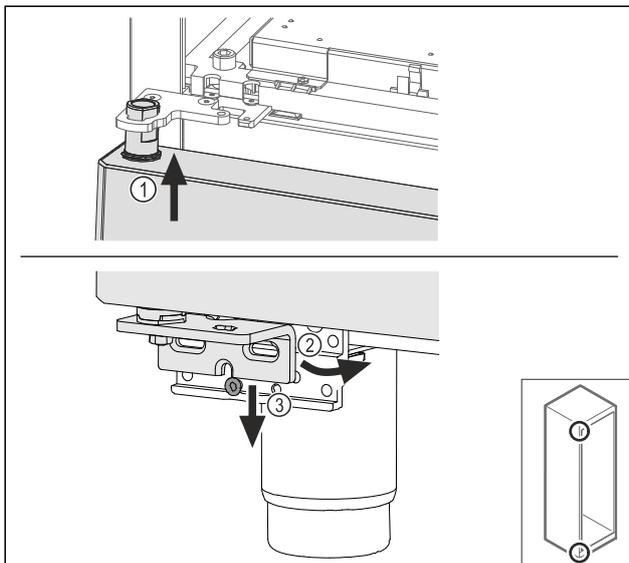

Fig. 60
- ▶ Insert the door slightly tilted at the top Fig. 60 (1), align the door straight Fig. 60 (2) and place it on the bottom of the swap bearing block screw Fig. 60 (3).